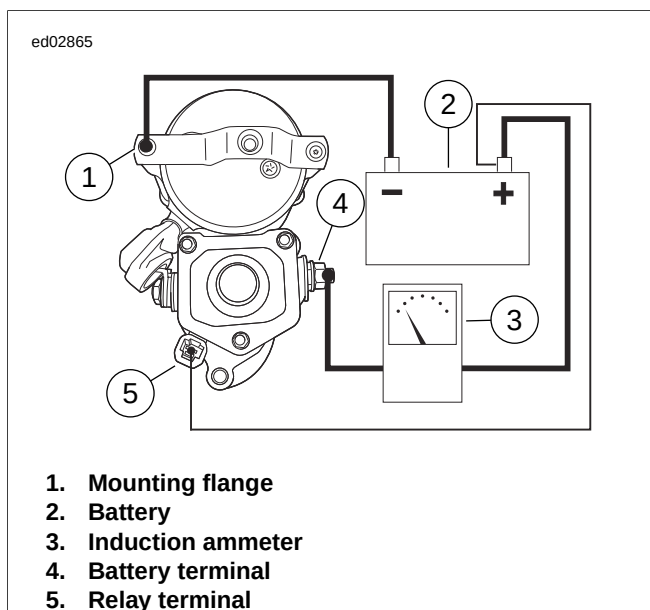

Figure 1-7. Free Running Current Draw Test
- See Figure 1-7. Attach one heavy jumper cable (6 gauge minimum).
- Connect one end to the starter mounting flange (1).
- Connect the other end to the negative (-) terminal of a fully charged battery (2).
- Connect one end to the positive (+) terminal of the battery (2).
- Connect the other end to the battery terminal (4) on the starter solenoid. Place an inductive ammeter (3) over cable.
- Connect the other end to the solenoid relay terminal (5).